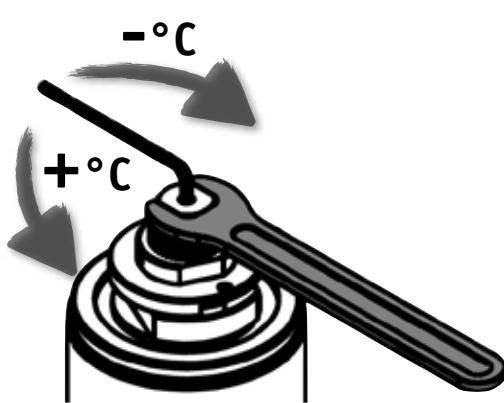

Fig. 12
5) Insert 2.5mm ALLEN KEY into the RING NUT 14 at the top of the CARTRIDGE 15 and whilst holding ALLEN KEY firm, loosen the RING NUT 14 using 13mm SPANNER (fig. 12)